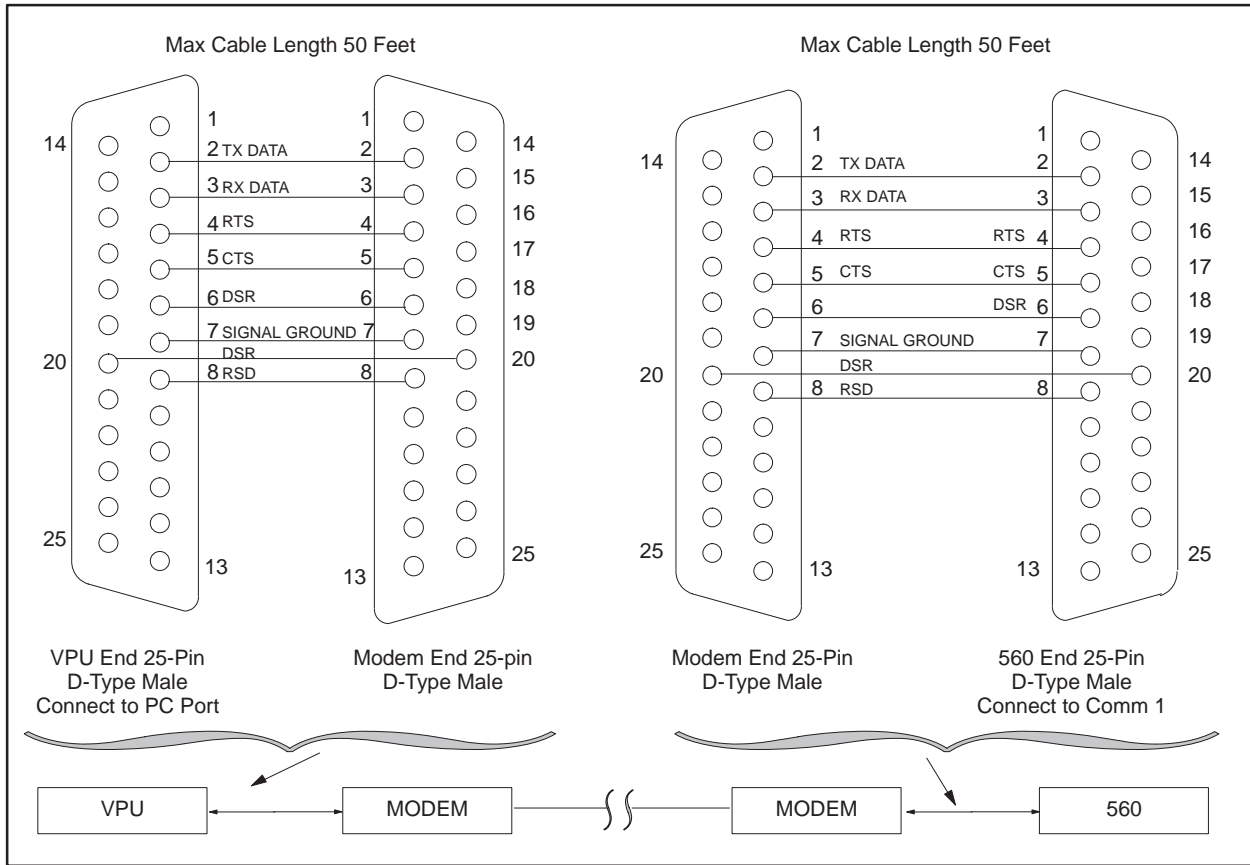

Figure 4-6 VPU200-3104 Modem Cable
2. Connection of the VPU200 to a remote 560 via modems. Modems must be used when the total cable length is more than 50 feet. Figure 4-6 gives the pinouts for the cable (PPX:VPU200–3605) used with a modem. The modem must be plugged into the same power source as the VPU200 and the controller.